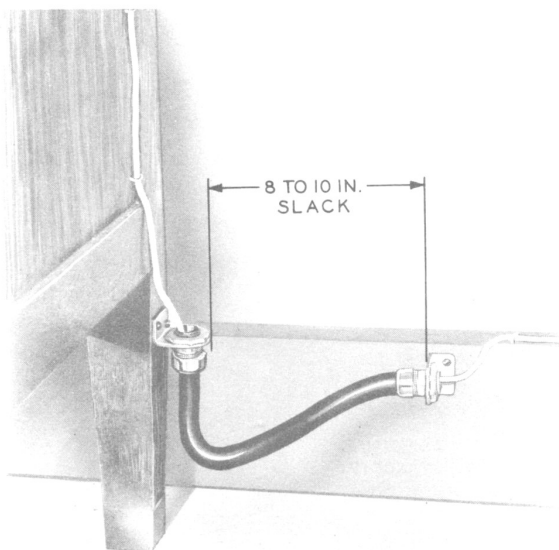

Fig. 1 — Wiring to Desk — Station Tubing
3.01 When a desk or table is located near a wall, station wire may be extended by using either B station tubing (Fig. 1) or a standard mounting cord (Fig. 2).